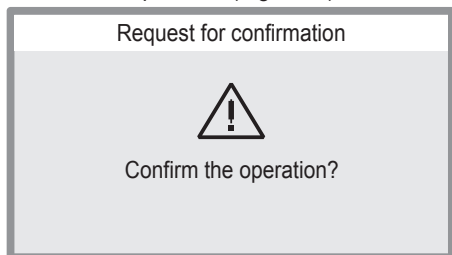

Fig. 7.22
- Press key 12 and wait 1 second.
- Press key 12 again.
- Press key 13 to reset the fault or key 14 to cancel the operation (Fig. 7.22).